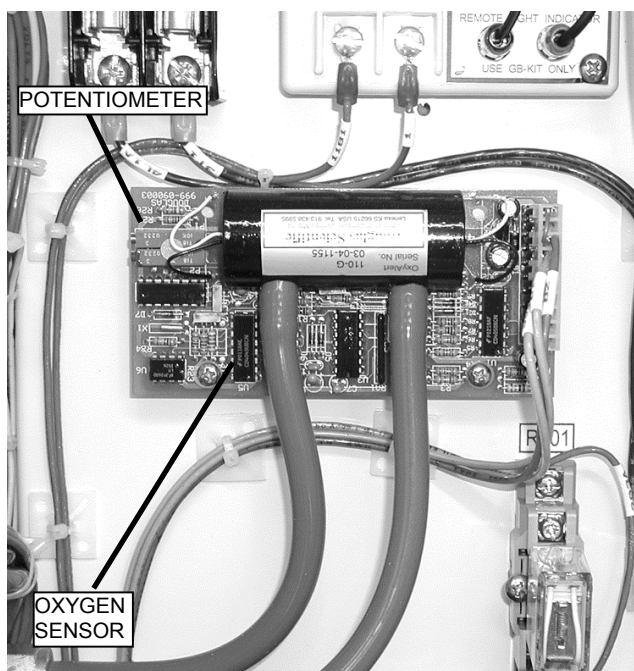

Figure 30. Oxygen Sensor.
- Locate the oxygen sensor. Refer to Figure 30.
- Locate the offset adjustment potentiometer. It is the top potentiometer to the left of the black cylinder. Refer to Figure 30.